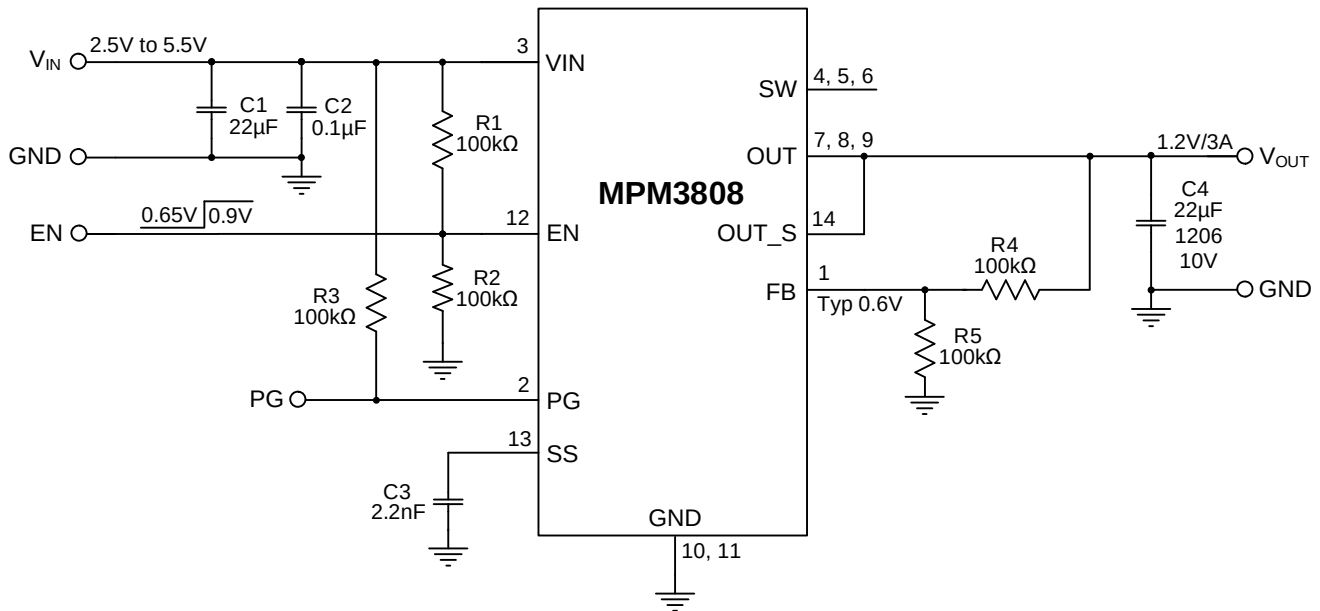

Figure 11: Typical Application (Adjustable Output, V_{OUT} = 1.2V)
- 9) The recommended PCB layout is based on Figure 11 on page 25.